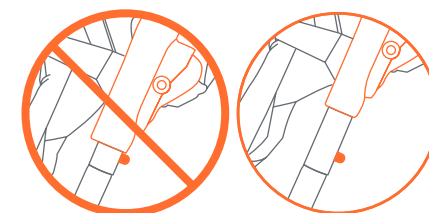

Fig. 13c
**DO NOT** rest Height Adjustment Brackets on the Locking Pins (Fig. 13c).